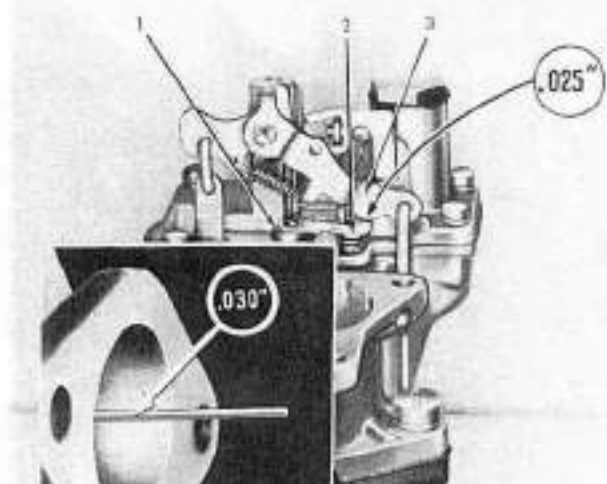

FIG. 410
To check the seating of the anti-percolator cap (1, Fig. 410), insert a $.030''$ (0.76 mm.) wire, Gage No. J-1633, in the throttle body opposite the idle port (see inset). With the throttle closed on the wire, there should be $.025''$ (0.64 mm.) clearance between the anti-percolator rocker arm (2) and the pump operating lever (3). If an adjustment is necessary, bend the anti-percolator rocker arm to obtain the proper clearance.